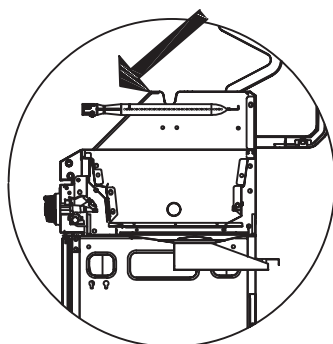

Figure 6
- 1) Insert back all burner as in Figure 6 and 7.